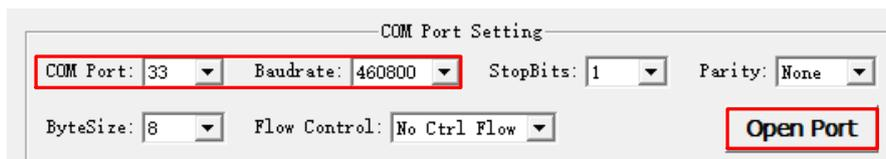

Figure 5: QCOM Interface for COM Port Setting
Step 5: Click “Open Port” to establish communication with the EVB, as shown in Figure 5: QCOM Interface for COM Port Setting . The NMEA or RTCM message output by the module will be displayed on the QCOM tool interface, as shown in the figures below.